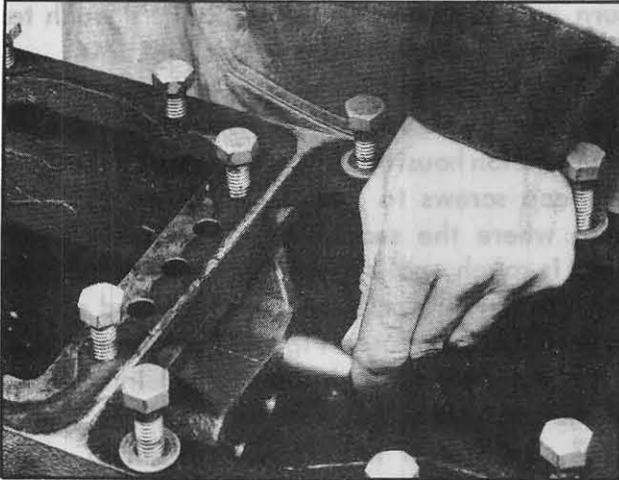

Fig. 247
9. Coat the reverse shifter rail oil seal with vaseline and carefully insert the protective cap, SDT-105 through the oil seal from the front of the housing, as shown in Fig.247. Slip the reverse shifter rail, see